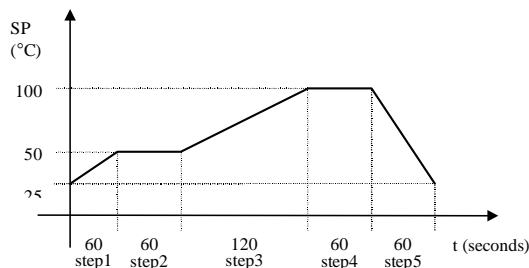

Fig.1 - Setpoint profile
2) The two arrays define the Setpoint value (y-axis) in function of the time (t-axis). Between two given points, the Setpoint is calculated by interpolation. As each segment is defined by [START\_VAL]i, [DURATION]i and [START\_VAL]i+1, a profile with “n” segments will need **n+1** starting values and **n** time durations. As example, the two following arrays define the profile shown on Fig. 1: